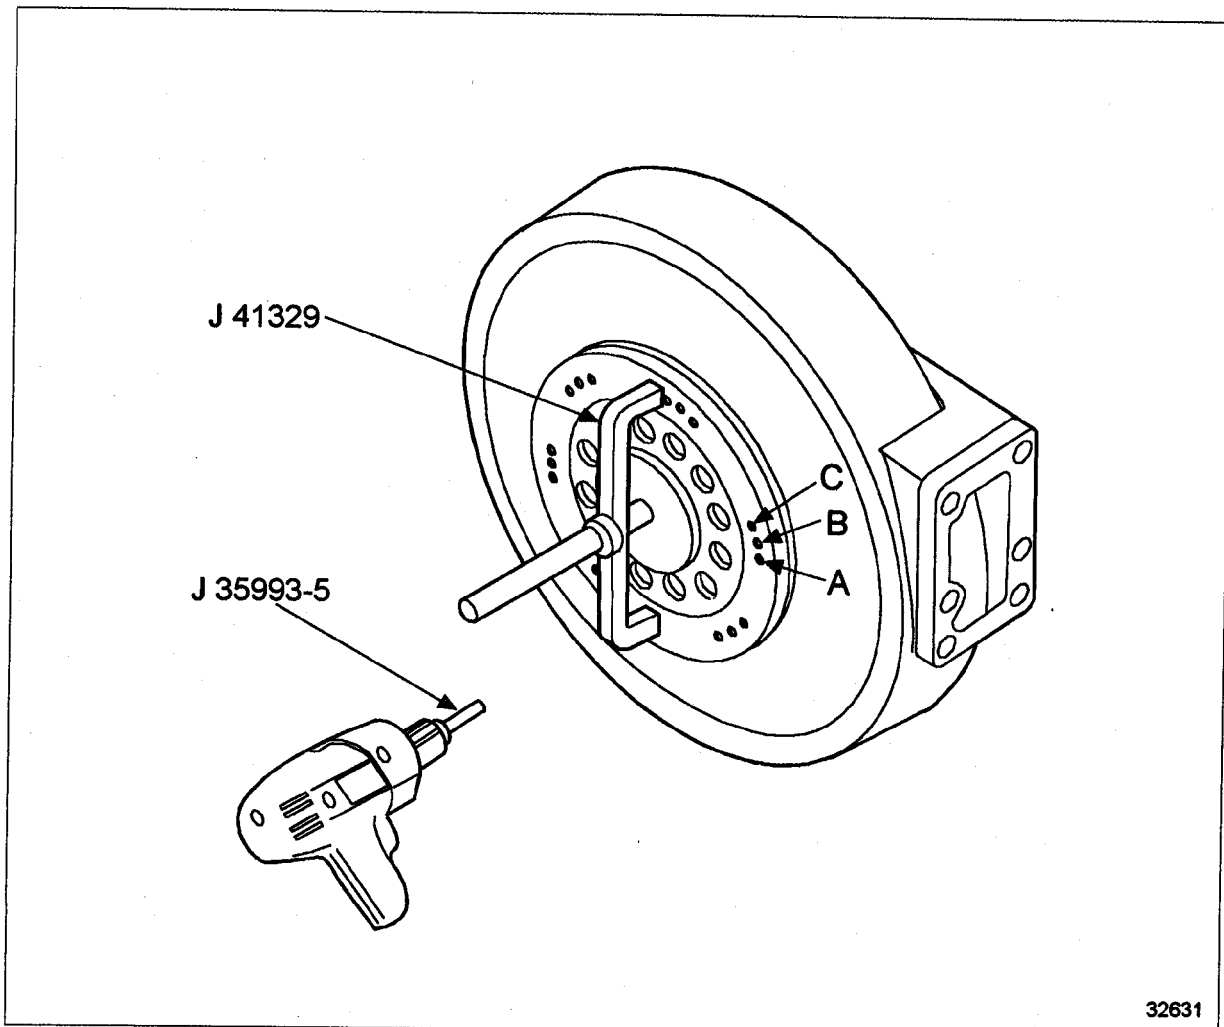

Figure 1-132 Rear Oil Seal Removal
2. Using variable speed drill motor and 5/32" bit, drill through outer and inner case of seal using smallest hole "A" as a guide. See Figure 1-132.